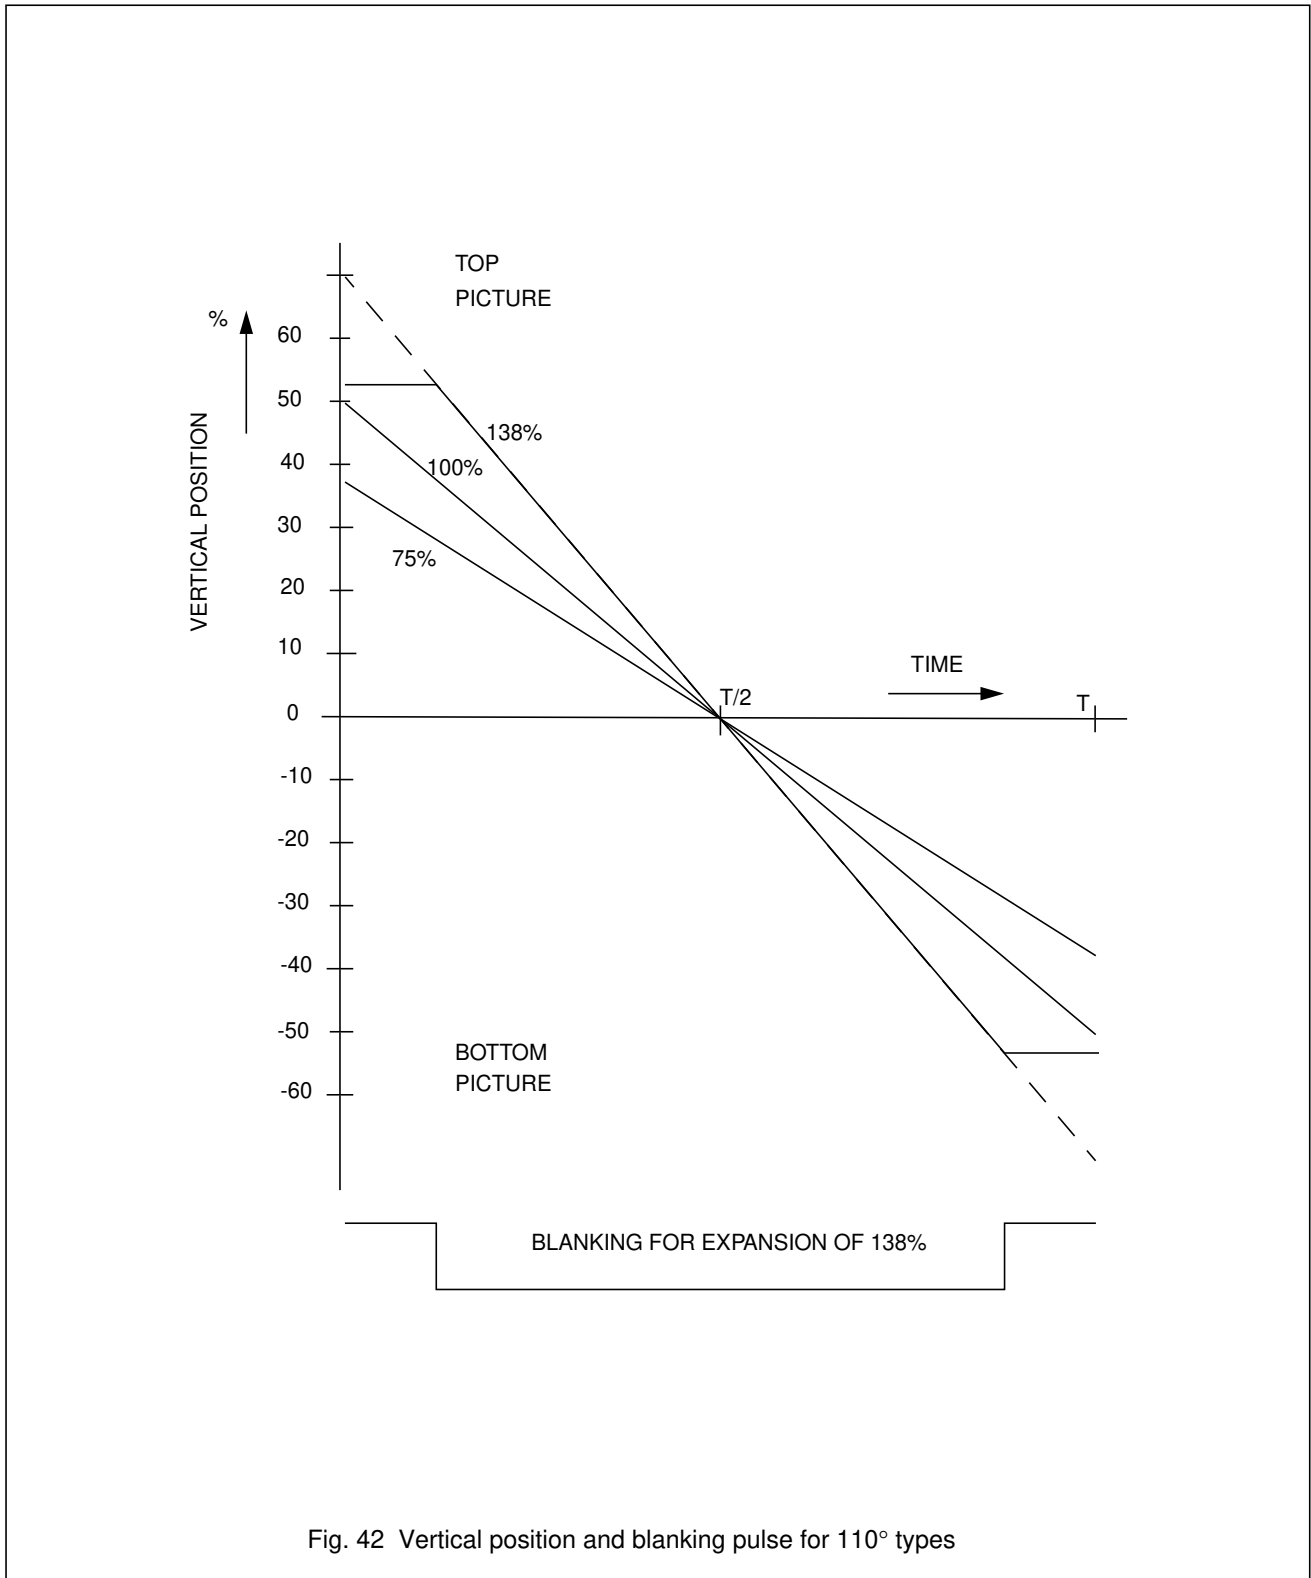

Fig. 42 Vertical position and blanking pulse for 110° types
47. The ICs have a zoom adjustment possibility for the horizontal and vertical deflection. For this reason an extra DAC has been added in the vertical amplitude control which controls the vertical scan amplitude between 0.75 and 1.38 of the nominal scan. At an amplitude of 1.06 of the nominal scan the output current is limited and the blanking of the RGB outputs is activated. This is illustrated in Fig. 42.